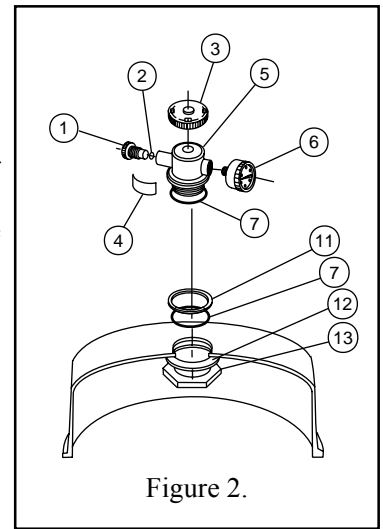

Figure 2.
8. Place one of the washer (*with the large hole- 7/16 in. inside diameter for NS and 17/32 in. inside diameter for FNS*) over the shank of the brass nut. Place one of the springs over the shank of the brass nut so that the washer with the large hole is captured between the end to the spring and the head of the brass nut, see Figure 2.